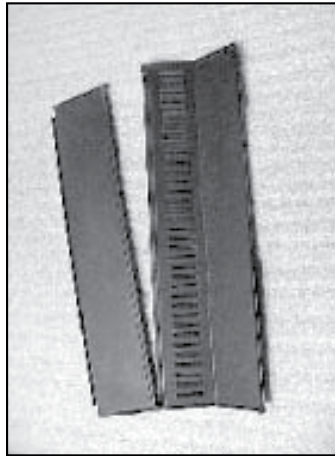

Figure 25.2
3. Set the large hole at bottom of side curtain over screw installed in **Figure 25.2**.